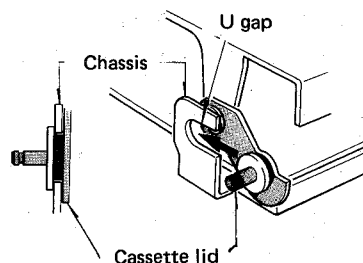

Fig. 5
- * When refitting the cassette lid, fix properly the spindle of the cassette lid in the U-gap of the chassis. (See Figure 5.)